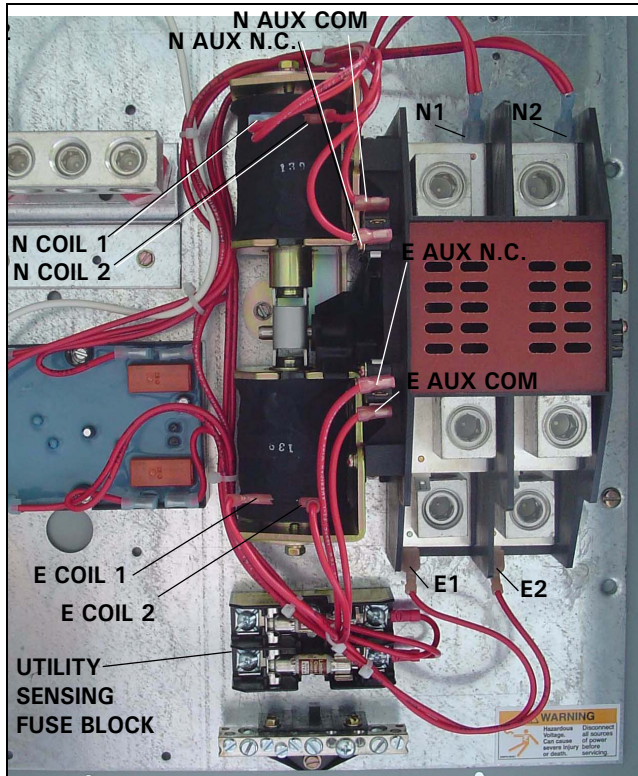

Figure 30. Replacing the Contactor.
Step 2: Note their location then disconnect the twelve (12) red wires from the contactor (see Figure 30).
Step 3: Remove the four (4) screws securing the contactor to the base plate using a blade screwdriver or 0.25 in. socket or nut driver. Remove the contactor.
Step 6: Reattach the twelve (12) red wires to the contactor. Examine each wire to find the name then refer to Figure 30 for the correct connection point.